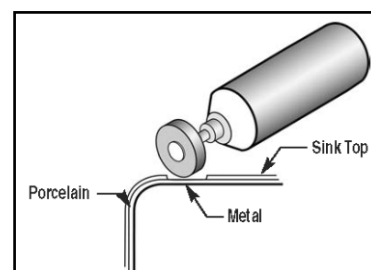

Figure 6: Grinding Wheel
- B. Grind away a 1-1/4-inch diameter circle in the porcelain using a silicon/carbide wheel and high-speed grinder (See *Installation Tool List*), down to the metal surface of the sink. (See Figure 6)